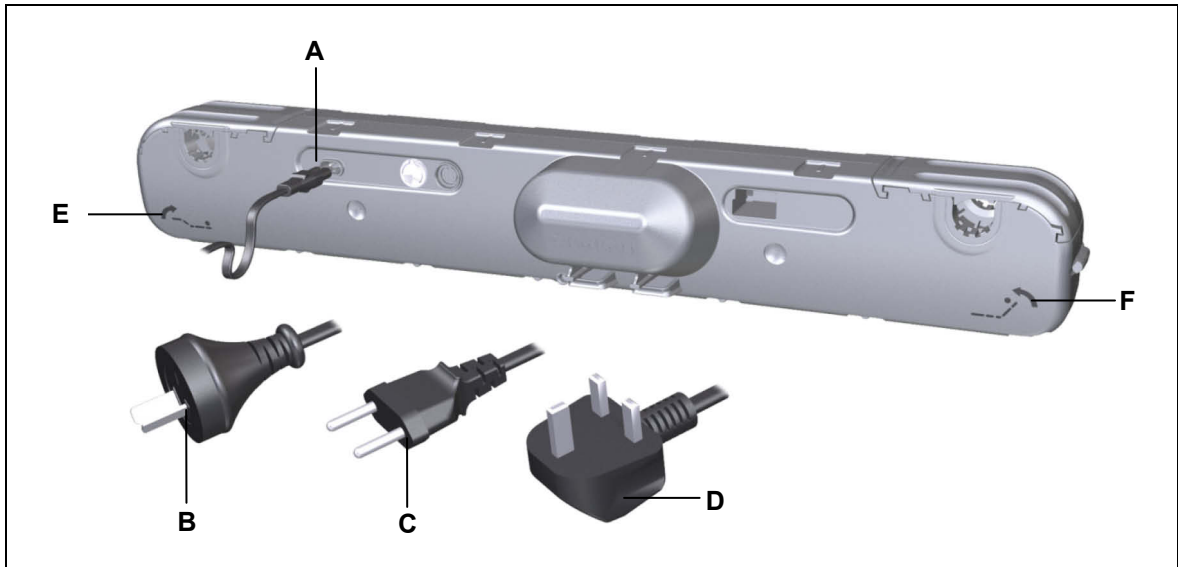

Figure 3 Pluggable power supply cord
- 3 Align the OKIMAT 4 next to your product. The slots for the back and leg sides must be properly aligned with the correct brackets on your end product (refer to the symbols on the OKIMAT 4 as described in Figure 3).